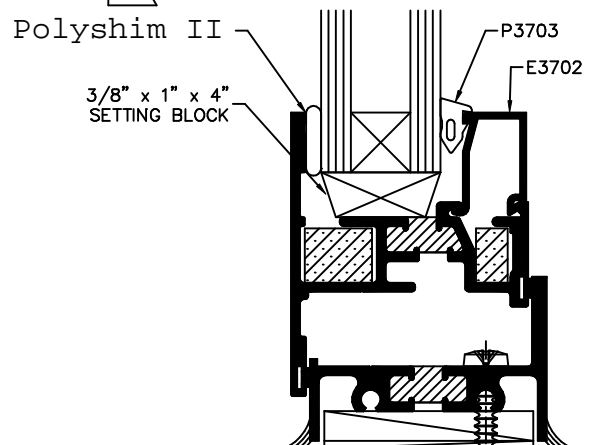

FIGURE 5A
1. APPLY TREMCO BUTYL GLAZING TAPE CONTINUOUS TO SASH AS INDICATED IN FIGURES 5A AND 5B. BACK UP JOINTS WITH 6" LONG TOE BEAD OF BUTYL SEALANT.
- A. USE E3702 FOR 1" GLASS (SEE FIGURE 5A).